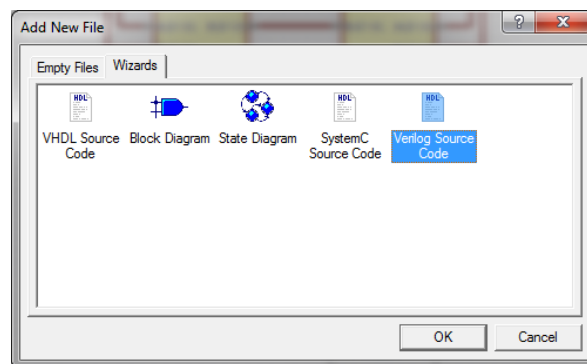

Figure 3
1. Add a new Verilog file to the design. To do this double-click on the “Add New File” in the Design Browser, then select the “Wizards” tab, and click on the “Verilog Source Code” Wizard (Figure 3). Click ‘OK.’